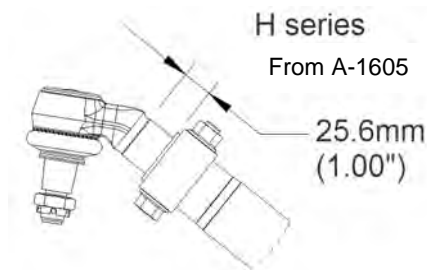

FIGURE 5
9. Unscrew the *drag link elbow* ball joint out **1 inch**. The tapered shank must point down as shown on **FIGURE 5**.